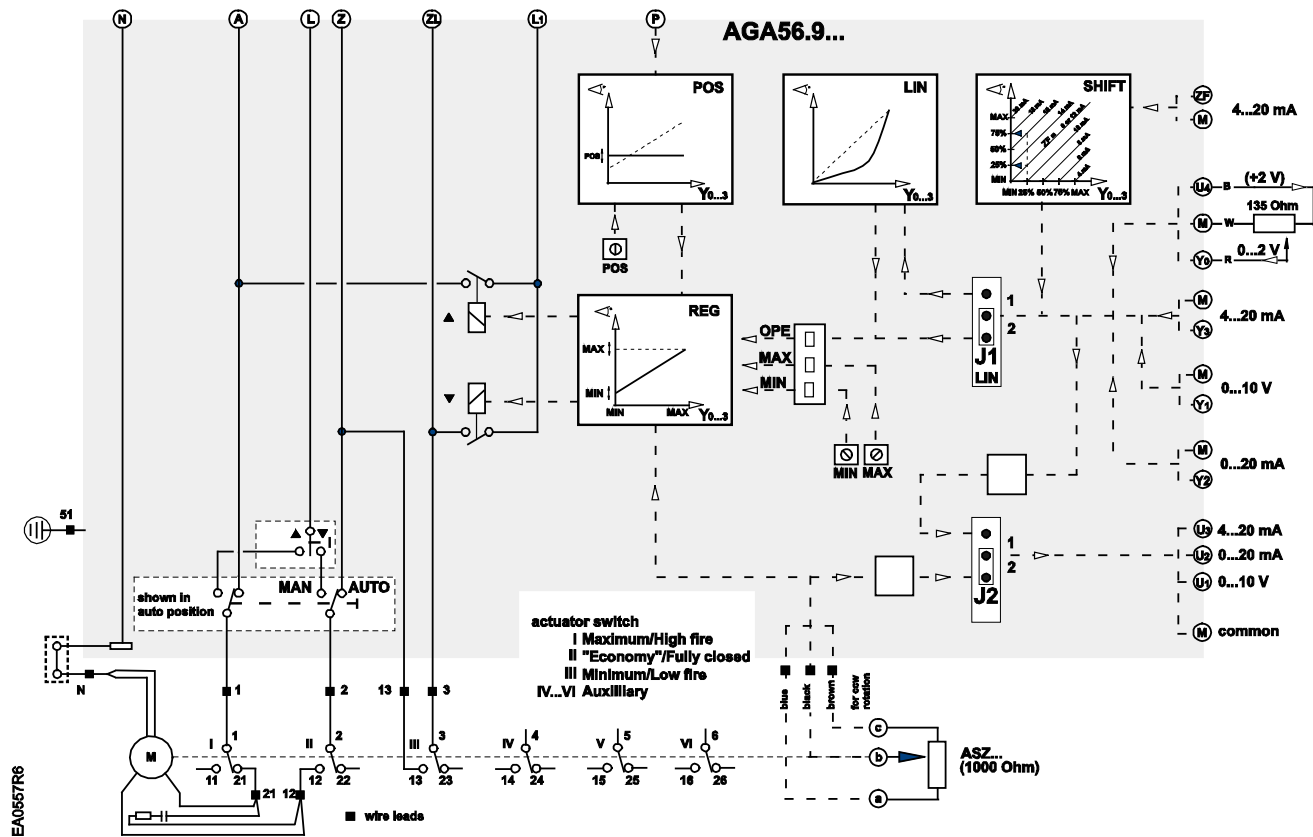

Figure 11. Basic Functional Diagram of AGA56.9
See Figures 11 and 12.
9. Connect the input control signal wires to the appropriate terminals. See Figure 11.